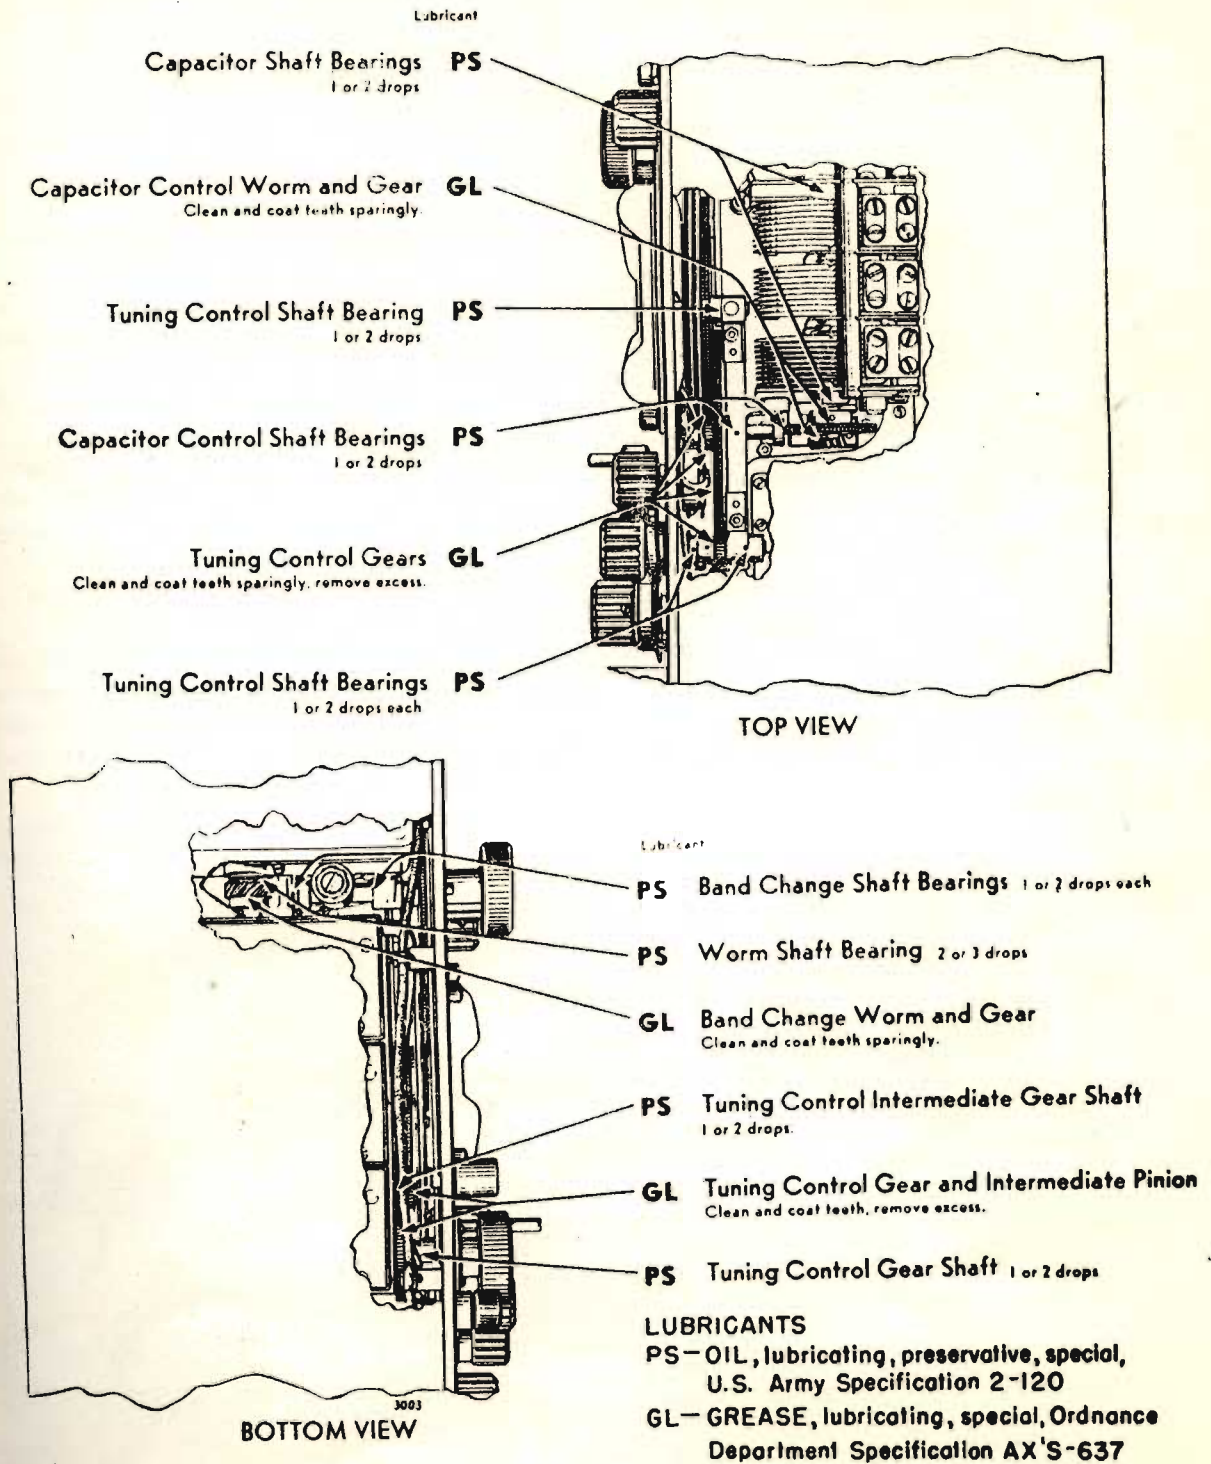

Figure 7. Lubrication data.
c. LUBRICATION. The receiver tuning dial bearings and gears are lubricated at the time of manufacture with sufficient lubricant to last the life of the equipment under normal conditions; however, if lubrication becomes necessary after cleaning or because of abnormal use, lubricate the parts as directed in figure 7.